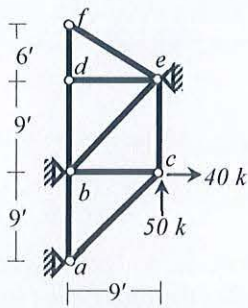

Fig.6
6. Identify zero-force members of the 2D truss *abcdef* loaded as shown in Fig.6. Determine the displacements of joint *c*. Also calculate member forces [Given: $EA/L = 1200$ k/ft].